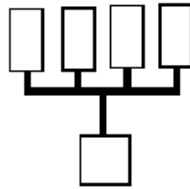

Figure 21. Recommend Layout of Memory Devices
- Use a Tee topology for the PCB layout of the trace to balance the delay between the MC9328MX1/MXL to different memory devices. Figure 21 provides an illustration of this.